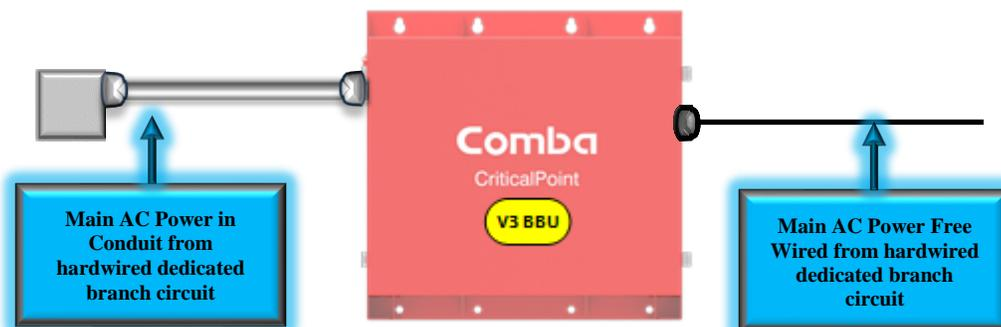

Figure 45: V3 BBU Main AC Input Installation Example
- Run the Main AC Cable through a knockout on the BBU into the BBU for connection. It is recommended to use a 1/2" knockout for ease of installation. The cable can run through a conduit from a hardwired dedicated branch circuit to the BBU as shown in Figure 45. If using conduit, a liquid tight conduit connector, as shown in Figure 41, must be installed to maintain the UL50E NEMA 4 rating for waterproofing. This connector is not included and must be provided by the installer.